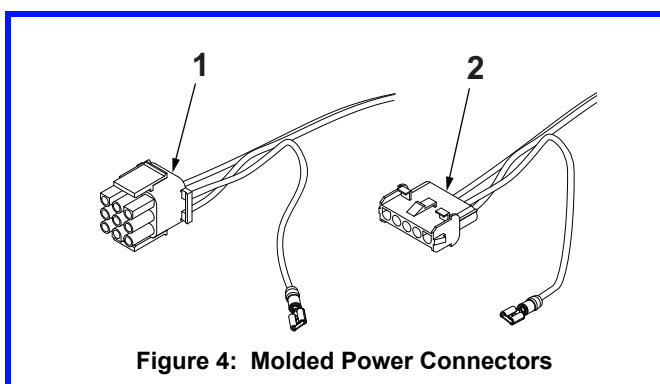

Figure 4: Molded Power Connectors
- There are two molded connectors used. A 9-pin is used for the Lower Warmer connection and a 5-pin is used for the Upper Warmer connection. It is recommended that before disconnecting the wires, each set should be taped together and marked to prevent placing the wrong wire in a connector. See Figure 4.